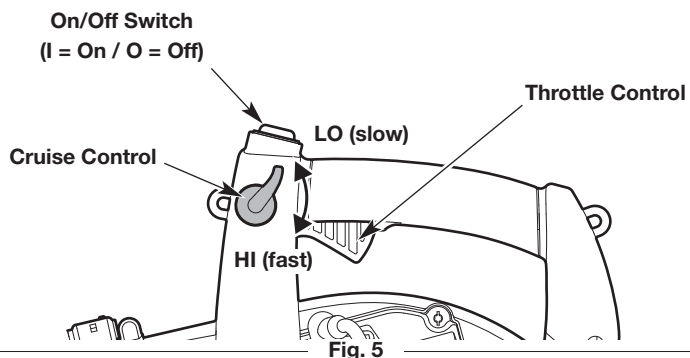

Fig. 5
NOTE: There is no need to turn the unit on. The On/Off switch is in the **On (I)** position at all times (Fig. 5).
2. Move the cruise control to the **LO (slow)** position (Fig. 5).
NOTE: Keep the cruise control in the **LO (slow)** position and **DO NOT** squeeze the throttle control (Fig. 5) until step 7.
7. Squeeze and hold the throttle control or move the cruise control to the **HI (fast)** position (Fig. 5).
2. Press and hold the On/Off switch in the **Off (O)** position until the engine comes to a complete stop (Fig. 5).
NOTE: Keep the cruise control in the LO (slow) position and DO NOT squeeze the throttle control (Fig. 5) until step 9.
9. Squeeze and hold the throttle control or move the cruise control to the **HI (fast)** position (Fig. 5).
- Use the cruise control to make continuous operation easier (Fig. 5).